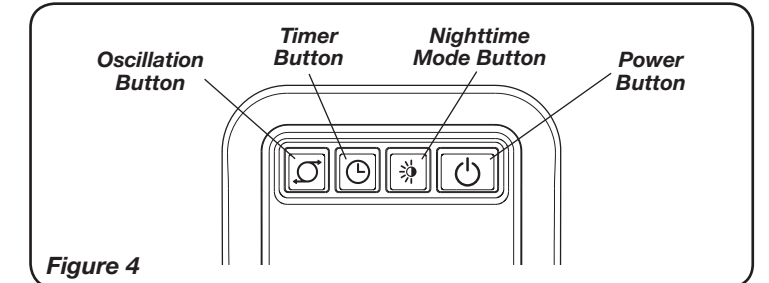
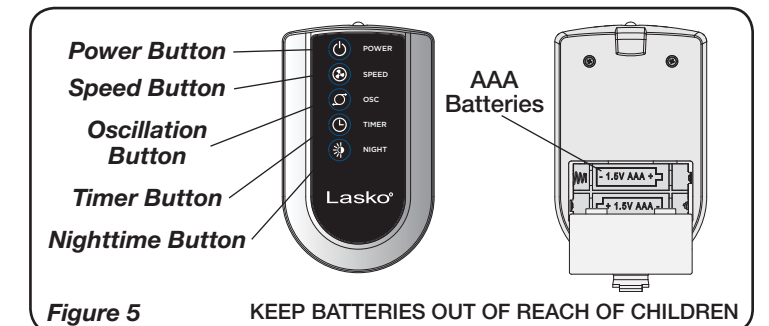

Figure 4
Figure 5
This Fan may be operated by the Manual Controls located on front of the unit (*Figure 4*) or by the Remote Control (*Figure 5*).
1. Install two "AAA" batteries (not included) as shown in *Figure 5*